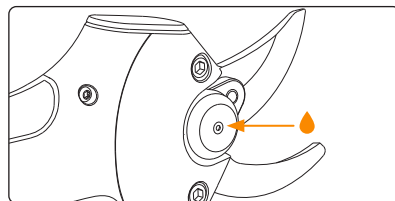

Figure 5. Lubrication hole location.
- Cutting and lower blades should be lubricated regularly by putting universal grease into the lubrication hole (small notch on axle as seen in Figure 5).